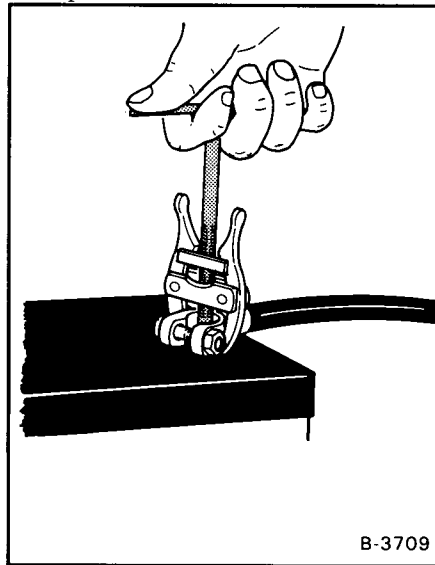

Fig. 60 Removing Cables
1. Remove the battery cables (Fig. 60). Remember the position of the positive terminal and the negative terminal so you can connect the cables correctly after the new battery is installed.